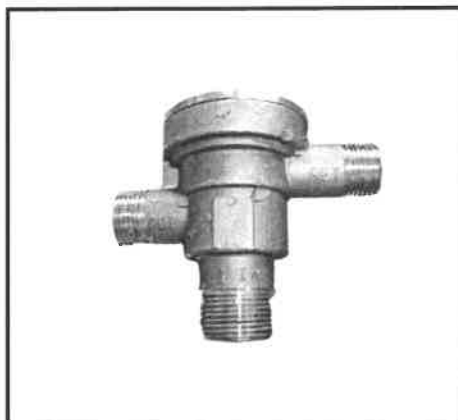

FIGURE 4.6
- 4.6 FIGURE 4.6 below shows a valve used in cold-water installation as a water-saving device.